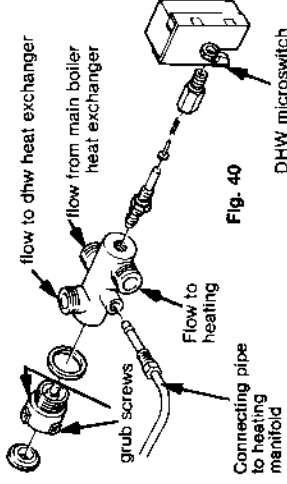

Fig. 40
- 8.16.6 Remove retaining nut (fig. 40) and remove micro switch pulling tabs off fan overrun. (fig. 44)
- 8.17.4 Unscrew retaining nut and remove micro switch (fig 40).